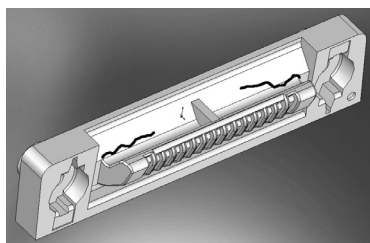

Figure 1: Male IUI Connector (right side)
1. Visually inspect the right side (male) IUI connector for cracks on the entire surface of the black colored plastic housing. See Figures 1 and 2 for the male IUI inspection area and typical cracks.